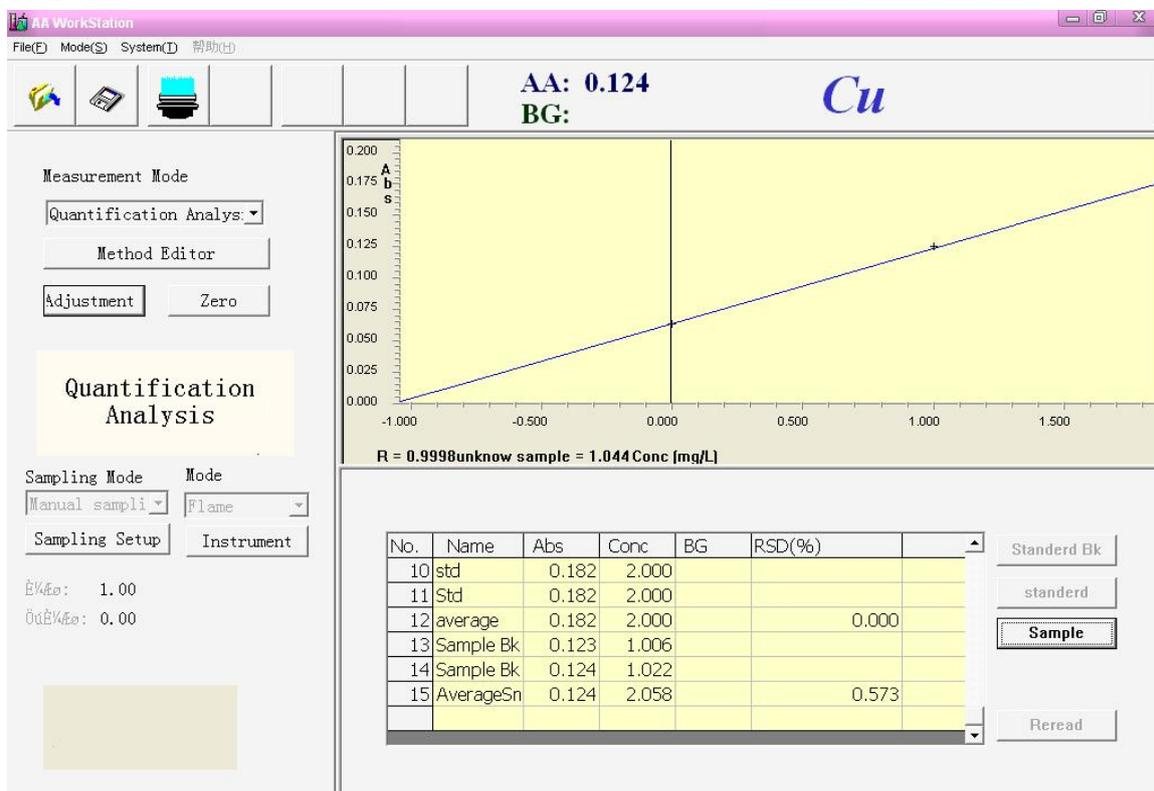

Figure 5-28
13. Follow this process testing the other two standard sample,after the testing,display the figure 5-28.The concentration of the unknown sample has already be calculated in the figure when the standard sample has been tested